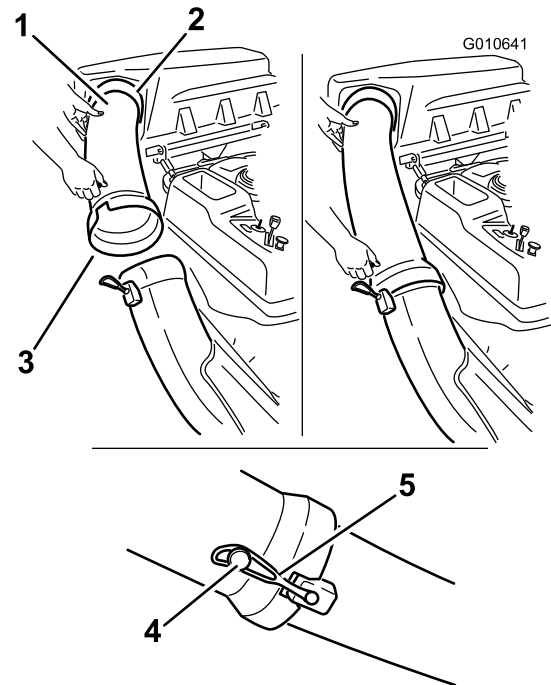

Figure 23
1. Slide the curved end of the discharge tube into the opening in the bagger top (Figure 23).
2. Slide the flared end of the discharge tube over the end of the chute. Move the rubber retaining strap on the chute snaps over the peg on the discharge tube to secure it (Figure 23).